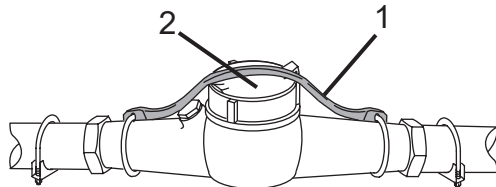

Figure 128
1. Slide the retaining strap (Figure 128, Item 1) to one side and open the cover (Figure 128, Item 2).
4. Close the cover (Figure 128, Item 2) and secure using the retaining strap (Figure 128, Item 1).